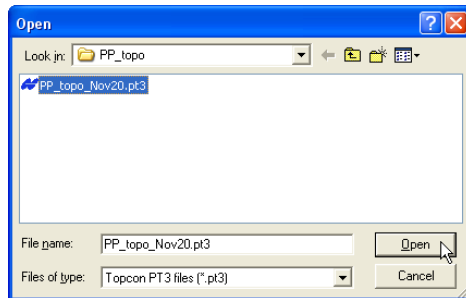

Figure 3-6. Open 3D Points File
2. On the **Open** dialog box, navigate to the location of the file, select the file type as Points (*.pt3), select the desired file, and click **Open** (Figure 3-6).